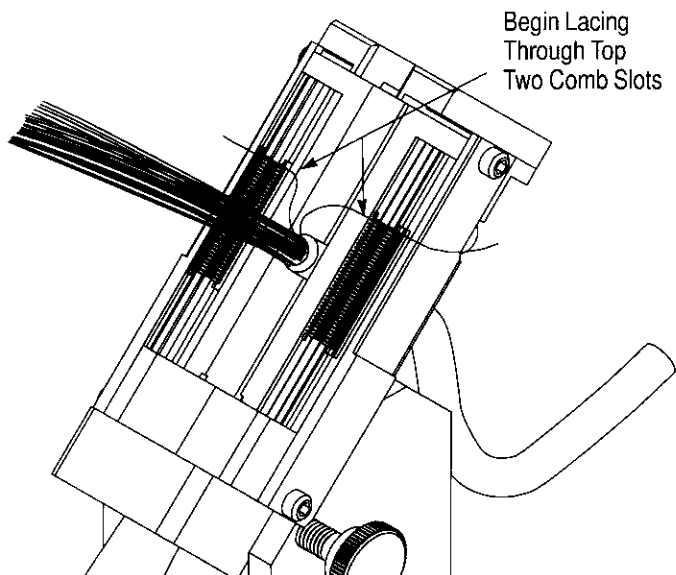

Figure 7
After the cable is properly positioned, the individual wires are laced into the comb slots on the insertion bars. Refer to Figure 7. The wires are laced beginning with the uppermost slots and in color-code order per the desired application.
3. Begin lacing wires into the slots of the combs, beginning with the uppermost slots on the insertion bars. See Figure 7. If the 36 or 50-position connector is being used, all the slots on the tool will NOT be used.